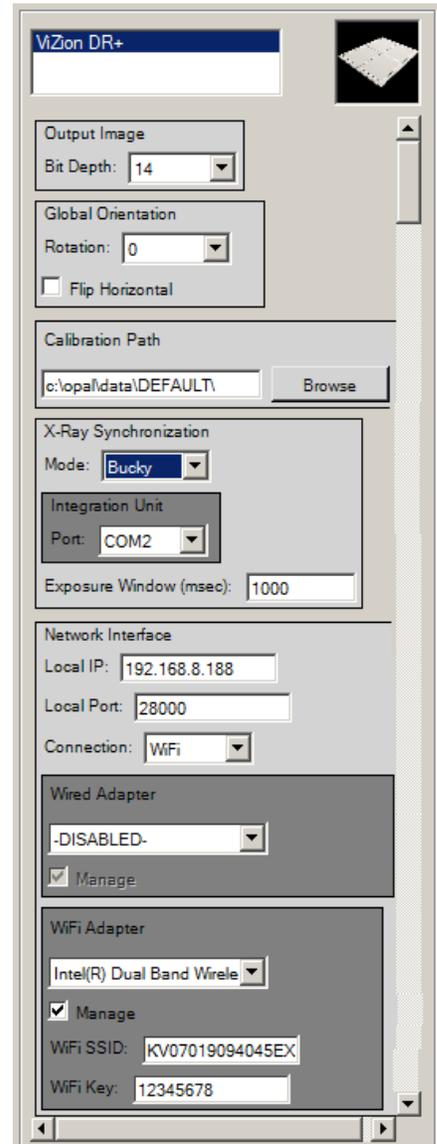

Figure 21
4. Hold ctrl + shift and click the options button > click **Developer tab** > change the use New Venu Drivers dropdown to True **Figure 21**